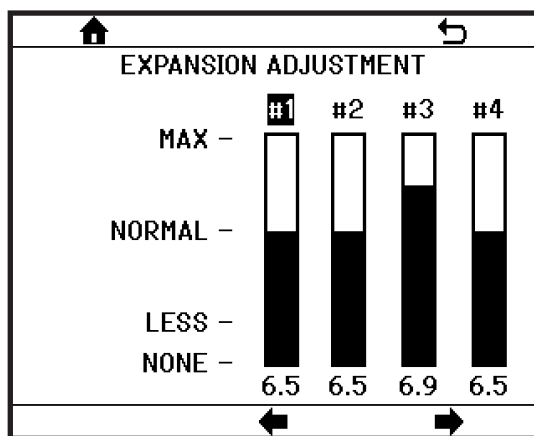

Figure 7.20
- **EXPANSION ADJUSTMENT:** Used to adjust the amount of gas in a drink (Figure 7.20). The range of values is limited based on the configured gas and drink type.
EXPANSION ADJUSTMENT (Figure 7.20) - This menu allows the user to set how much gas is injected into the drink. The adjustment ranges from “MAX” (high levels of gas, high expansion) to “LESS” (lower levels of gas, low expansion). Select the barrel number and adjust the level up or down.